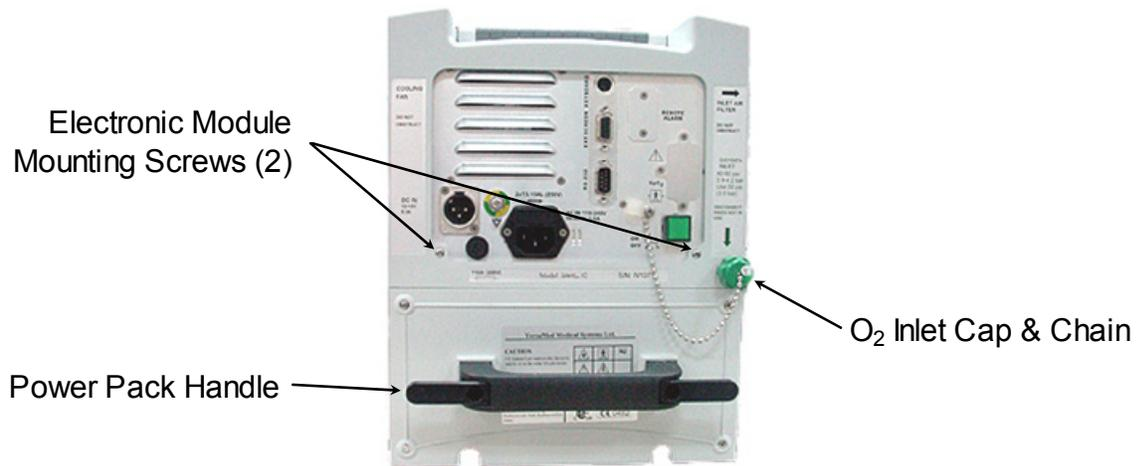
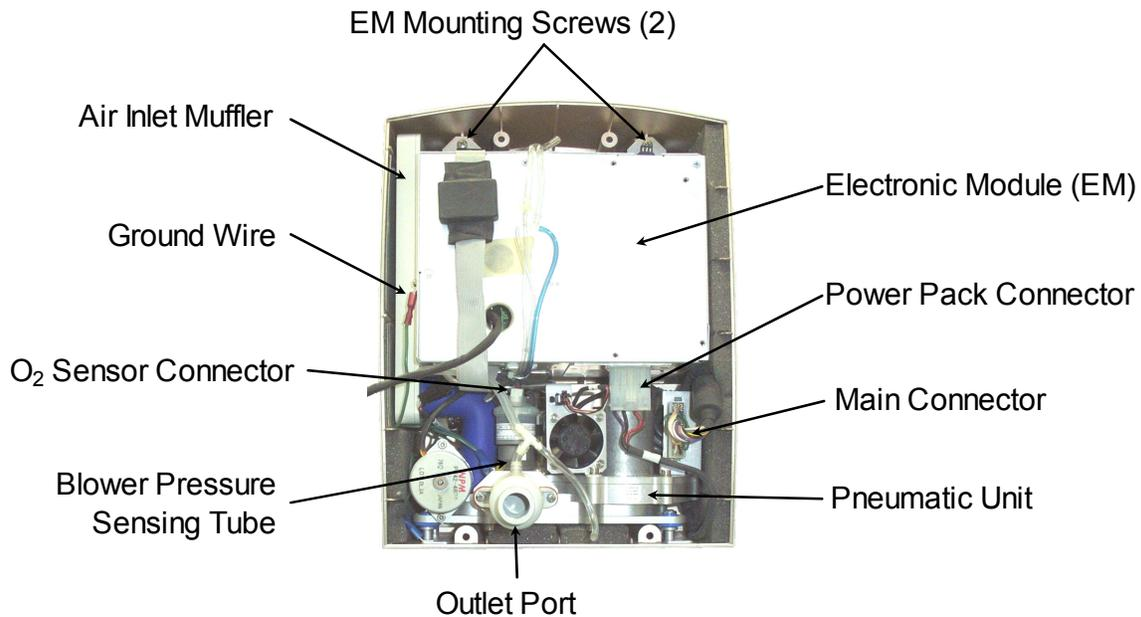

Figure 7-9: Enclosure (Rear View) #2
Figure 7-10: Rear Enclosure (Inside View) #2
2. Unscrew the green O₂ inlet cap from the DISS fitting on the rear of the unit (see Figure 7-9, page 120).
3. Remove the (2) 3mm x 8mm Phillips head screws from the rear of the enclosure.
4. From a point of view facing the inside front of the rear enclosure, disconnect the green ground wire from the left-side of the electronic module (EM) (see Figure 7-10, page 120).
8. Disconnect the power pack connector from the bottom-right of the electronic module (EM).
9. Remove the (2) 4mm x 8mm screws and lock washers from the electronic module mounting plate located at the top of the electronic module.
3. Install the (2) 3mm x 8mm Phillips head screws to the rear of the enclosure (see Figure 7-9, page 120).
5. Facing the front of the rear enclosure: connect the green ground wire to the left-side of the electronic module (EM) (see Figure 7-10, page 120).
9. Connect the power pack connector to the bottom-right of the electronic module (EM).